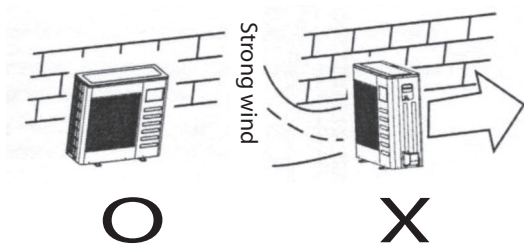

FIG. 6-1
- In the case that the installation place is exposed to strong wind such as a seaside, make sure the fan operating properly by putting the unit lengthwise along the wall or using a dust or shield.(Refer to Fig.6-1).